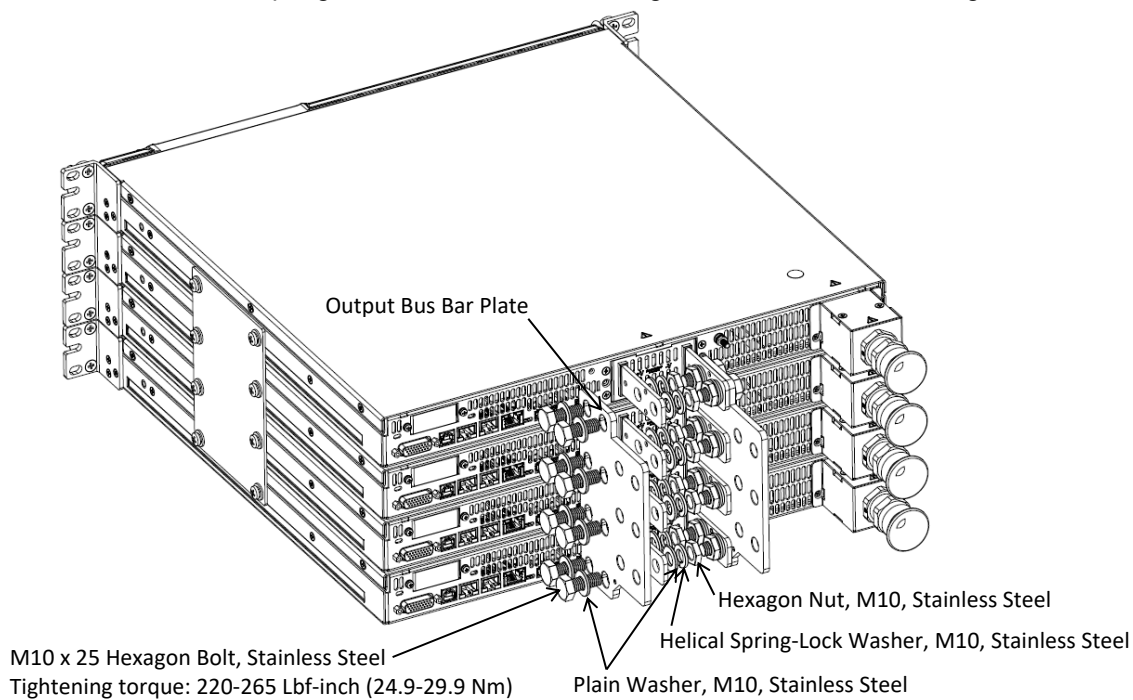

Figure 2: Four 10V-40V Units Output Bus Bars Plates Assembly
2. Attach output bus bars plates, one on each four terminals, using 16 hexagon bolts, 32 plain washers, 16 helical spring-lock washers and 16 hexagon nuts as illustrated in Figure 2.